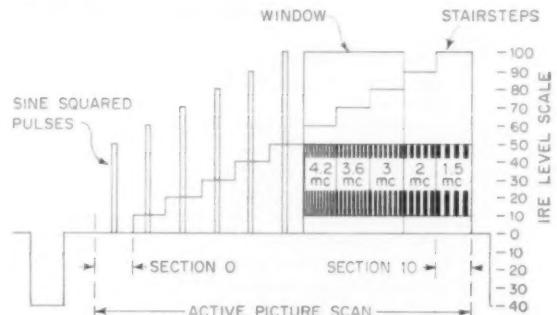

Fig. 4. Composite waveform. Waveforms shown at line rate sweeps.
2.2 The waveform of the composite signal shall appear as shown in Fig. 4.